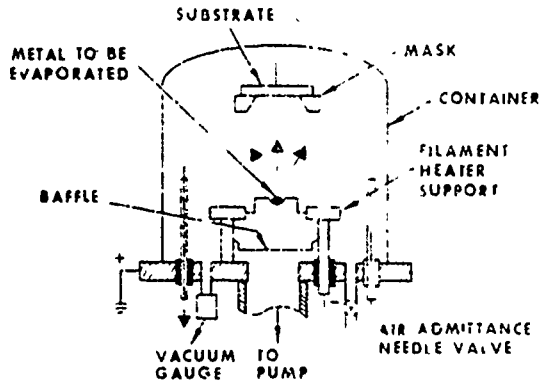
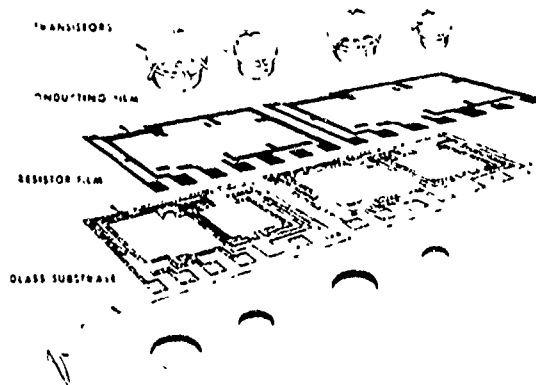

Figure 3-8. Vacuum evaporation forming a thin film IC.
Figure 3-9. Exploded view of a thin film IC.
- (1) A process known as vacuum evaporation is often used to form a thin film IC. This method is shown in figure 3-8. Here you see a small piece of metal inside a container. Directly above the metal is the substrate with a mask attached. The mask, similar to the ones used with monolithic IC's, determines the pattern of the deposited film. A high vacuum is created in the container and the metal is heated to its boiling point. As the metal boils, its vapor condenses on the substrate through the openings in the mask. This process is repeated with different materials and masks until all the required resistors, capacitors, and conductors are formed. Unlike the monolithic IC, in which transistors are formed as part of the epitaxial layer, the thin film IC has miniature diodes or transistors attached to the circuit. Figure 3-9 is an exploded view of a thin film IC. If capacitors are needed in this circuit, they are deposited as a separate film.
- (2) In the thin film process it is possible to make resistors and capacitors with higher values and closer tolerances than those in monolithic IC's. For this reason, thin film IC's are preferred for high-frequency circuits that require precision components.